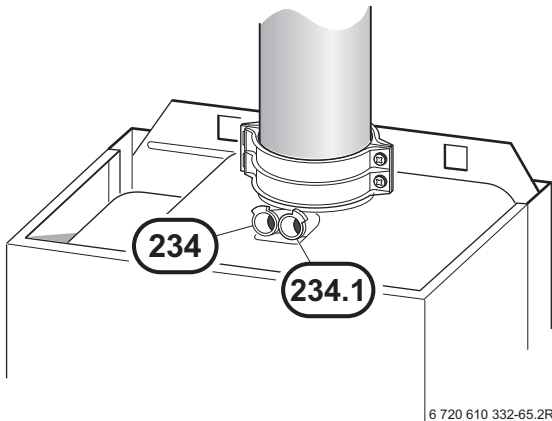

Fig. 48
- ▶ Remove sealing plug from combustion air testing point (234.1, fig. 48).
- ▶ Remove sealing plug from flue gas testing point (234, fig. 48).